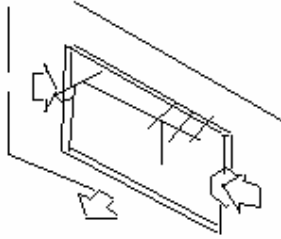

Fig.2-5
- (2) Take down the whole printer from the instrument, according to Fig.2-5, please be sure that the power is off before taking down the printer.